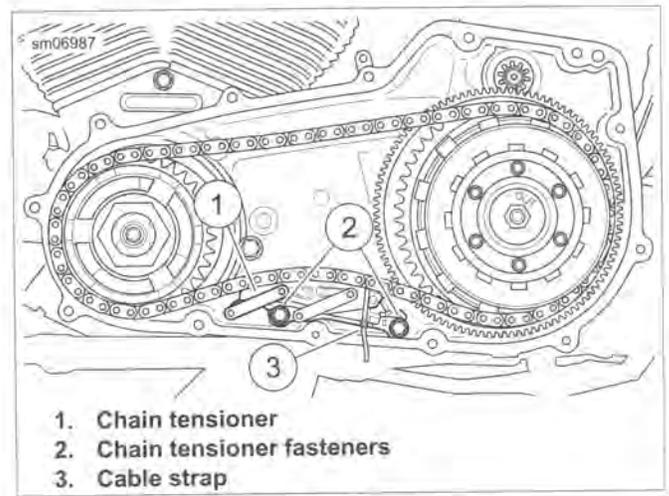

Figure 5-18. Chain Tensioner
16. See Figure 5-18. Install primary chain tensioner (1) with fasteners (2). Tighten to 21-24 ft-lbs (28.5-32.6 Nm). Remove cable strap.